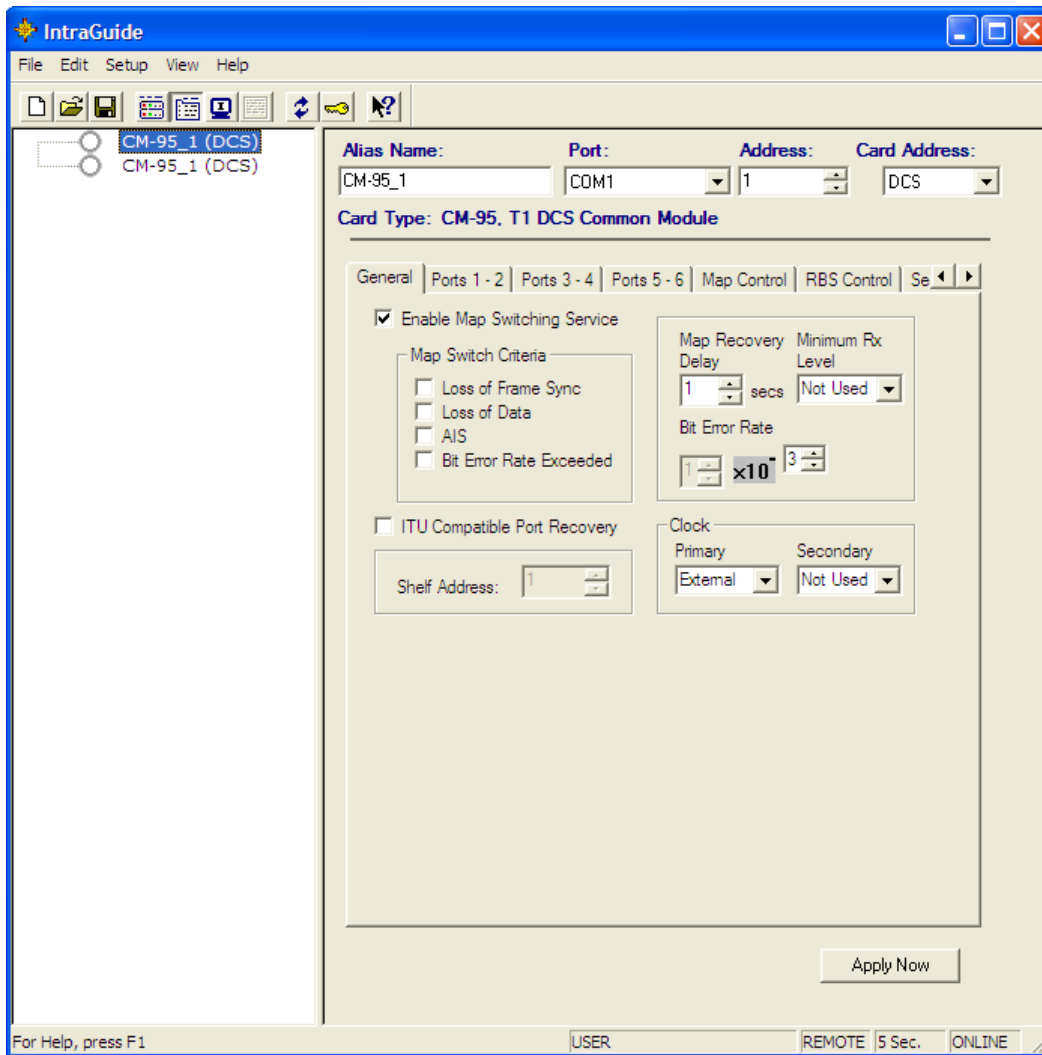

Figure 5-9. Configuration Pane after Completion of Auto Detect
7. To begin the discovery process, click **Finish**. A progress dialog box appears for the scan, and settings for the device with the lowest address in the search range appear in the Configuration pane (Figure 5-9).
For **Clock** source, on the **General** tab, you can select a port from the list (for example, **Internal** for internal oscillator). If **Internal** is the **Primary Clock** source, the field for the **Secondary Clock** source should be blank (Figure 5-9). Section 2.1.5 - *DCS System Clock* and Section 6.14 - *ISICL Commands Used to Manage the System Clock* give more information about the DCS system clock.
Map recovery delay is the amount of time that the DCS takes to check additional signals and ensure that there are no errors after an error in a previous signal has caused a port to fail. If there are additional errors, port recovery fails. The recovery process repeats with the DCS starting the recovery delay timer again. The default setting is two seconds (Figure 5-9). **Minimum Rx Level** sets the required minimum strength level of the received T1 signal for all ports.